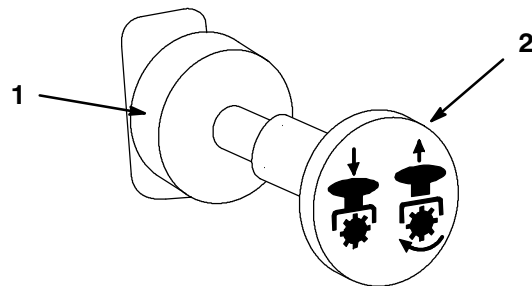

Figure 18
- Pull out on the power take off (PTO) switch to engage (Fig. 18).
- To disengage push the PTO switch to the “OFF” position (Fig. 18).